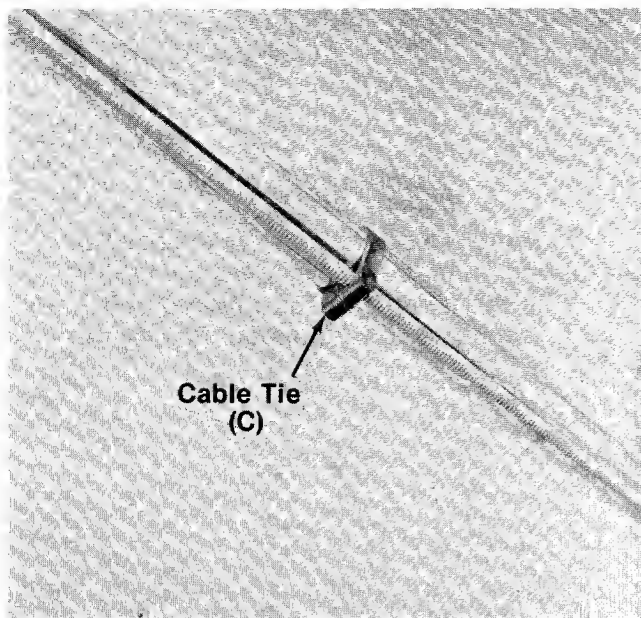

FIGURE 6.
- ← 6. Secure throttle control cable to handle with cable ties (C) provided. See figure 6.